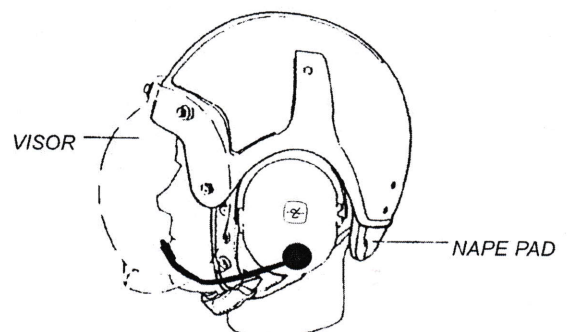

FIGURE 9
1. Snap posts are provided on the helmet shell to accept a variety of commercially available visors and face shields (See Figure 9).